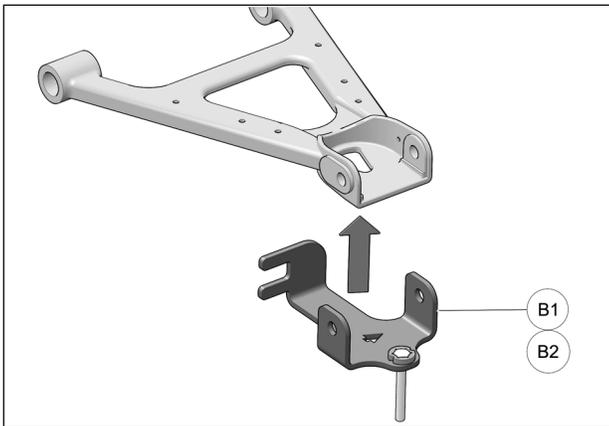
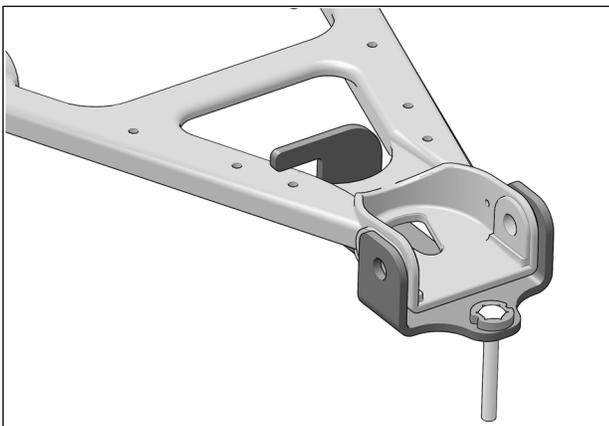

Fig. 6
Fig. 7
- Install the anchor bracket (B1-B2) under the suspension arm. Make sure to hook the bracket's C-shaped back end on the a-arm. See Fig. 6 and Fig. 7